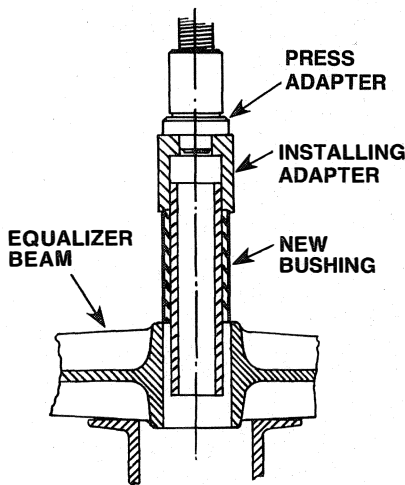

FIGURE 2
- Position the proper Installing Adapter (Item 3 for the 34,000 lb. axle or Item 5 for the 38,000 and 44,000 lb. axle) over the new bushing as shown in Figure 2. Place the Press Adapter (Item 6) on top of the installing adapter.